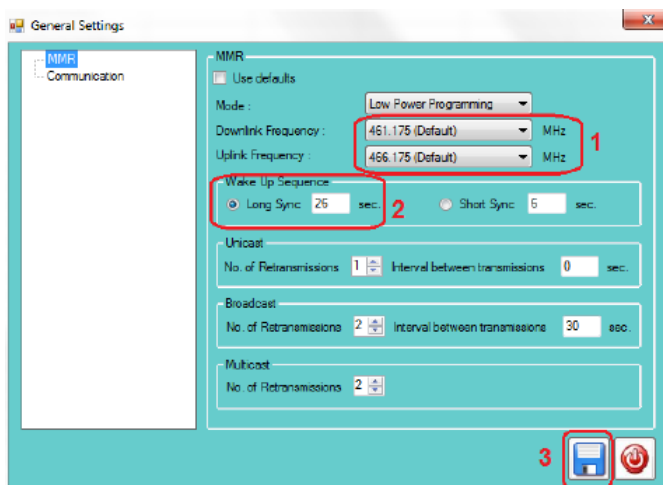

Figure 12
- Ensure both the **Downlink** and **Uplink** frequencies as well as the *Wake Up Sequence* are set to default on the **2w-MMR** (see figure 12)
- Select the **Save** icon (see figure 12).